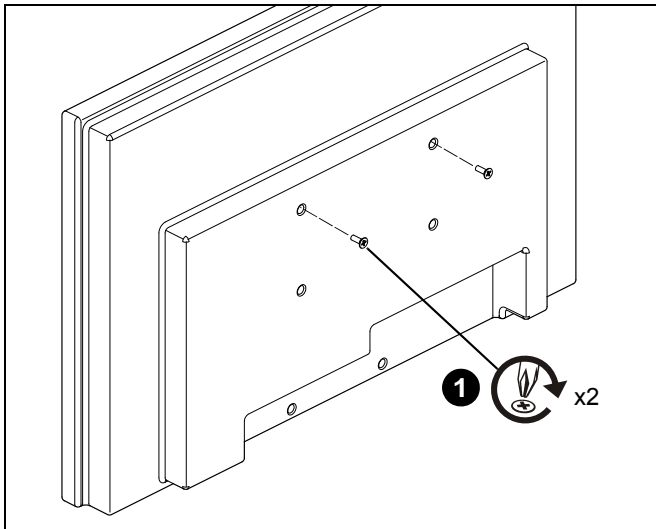

Figure 7
1. Start two M4 x 12mm Phillips pan head screws (included in hardware kit) into upper mounting holes in display back. (See Figure 7)